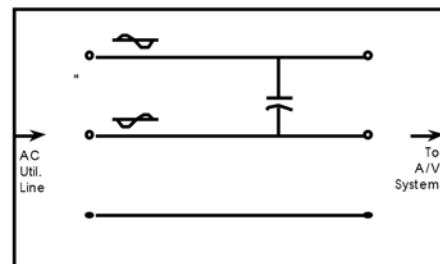

Figure 1A: A series type filter.
sometimes resistors (R) and transformers (T). Figure 1a shows an example of how differential-mode noise is typically handled by filtering on the power line. Since the phases are opposite, when they are combined, the noise cancels out. A simple and almost universal method is to place a small value capacitor ( $.01\text{--}.05\mu\text{fd}$ ) across the lines to effect this cancellation of unwanted frequencies (noise). As frequencies get higher, the capacitor begins to look like a good conductor, and the two out-of-phase noise signals will cancel each other out.